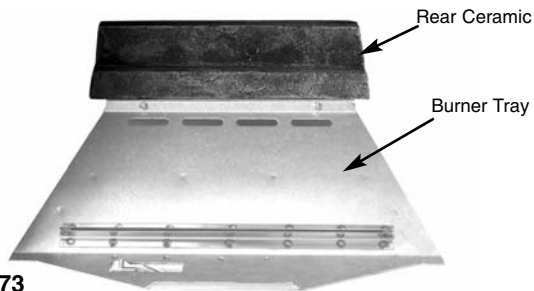

Fig. 73
1. Place the rear ceramic on the rear ceramic retainer ledge in a central position, ensuring the step portion is facing the front (Fig. 73).